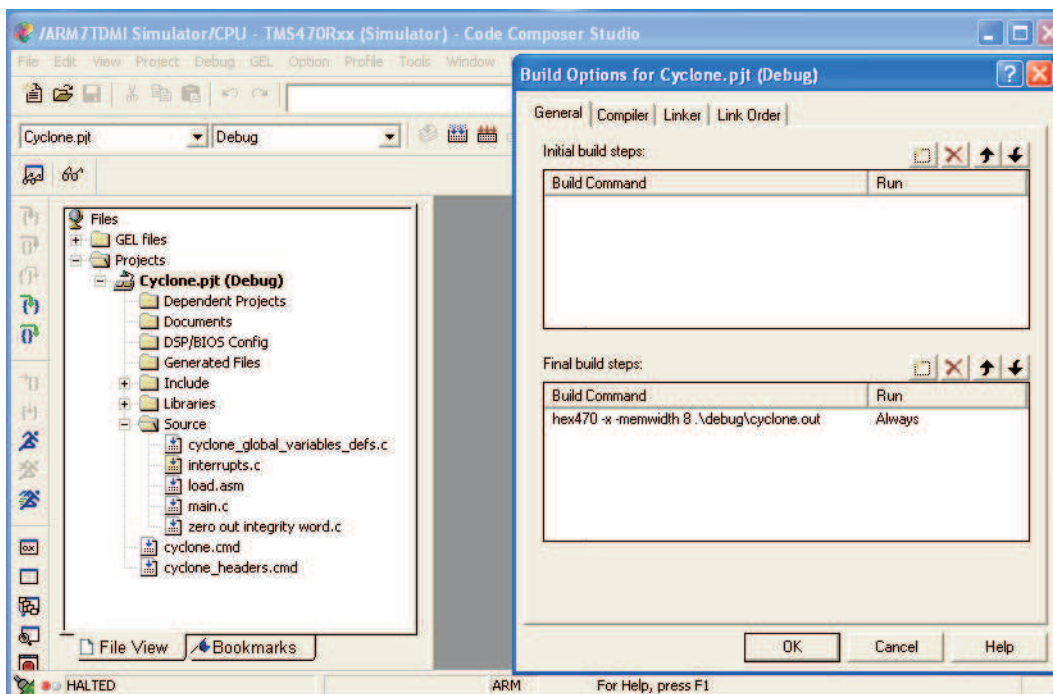

Figure 27. Open a Project File *Cyclone.pjt* (build options and general tab)
6. The next step is to convert file **Cyclone.out** to **Cyclone.x0**. "**Cyclone.x0** is the final firmware code to be downloaded to the UCD3138 device memories. To convert **Cyclone.out** to **Cyclone.x0**, the first step is to click **General** tab under **Build Options for Cyclone.pjt (Debug)**, as Figure 27 shown, under the **Build Command**, confirm the file to be converted is **Cyclone.out**, then click ok to close **Build Options**.